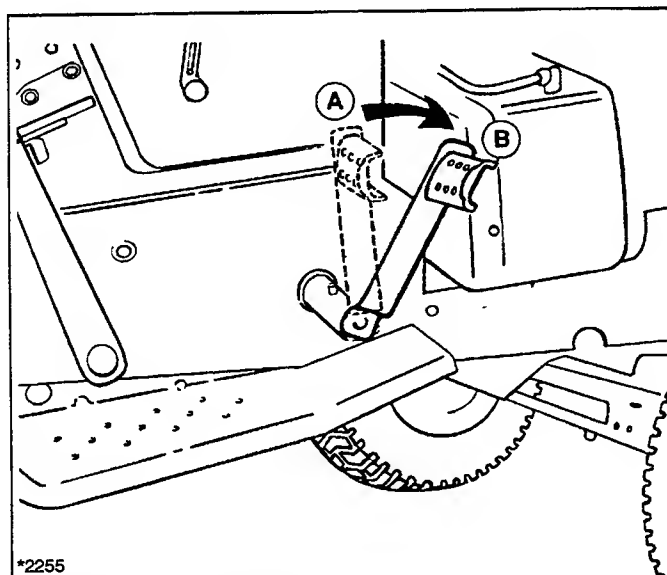

Figure 6. Clutch/Brake Pedal
1. See figure 6. Depressing the pedal from position A to B disengages transmission drive belt and applies tractor brake.